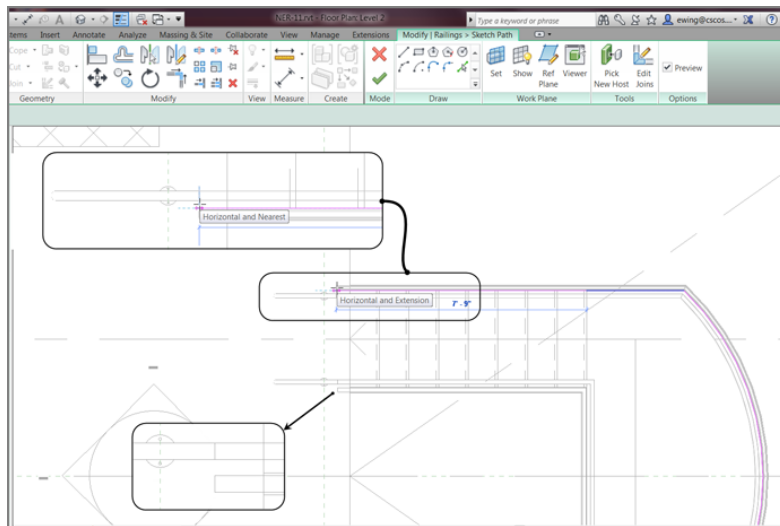

FIGURE 10.26: Creating a relationship between the stairs, the landing, and the handrail
5. Extend the railing to the front edge of the ADA family, exactly the same way you did for the south leg of the staircase (see Figure 10.26).
7. Repeat the procedure for the outside railing, as shown in Figure 10.26.